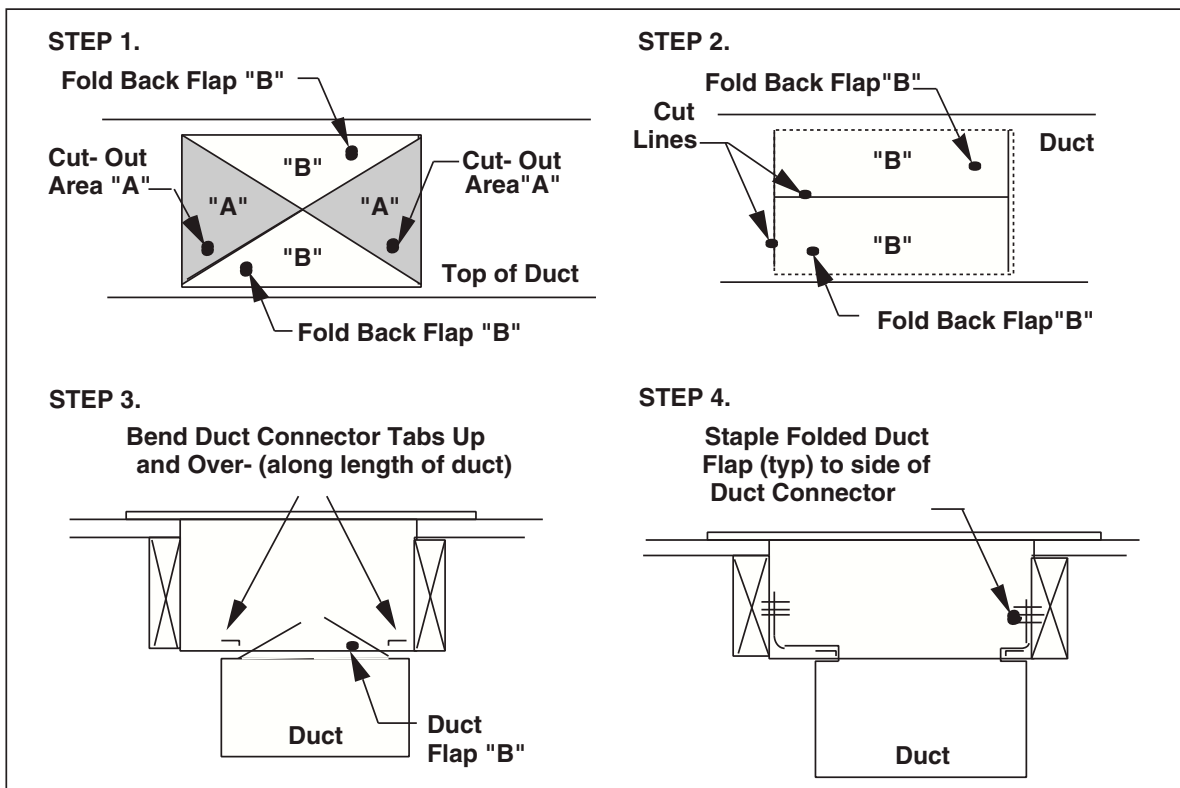

Figure 12. Alternate Duct Connector Installation D
1. Score and cut top of metal duct as indicated in Figure 12, Step 1 or Step 2. If using Step 1, also cut out metal from the shaded area "A".
2. Fold the duct flap "B" up (see Figure 12, Step 3).
3. At the front-to-back of duct run (see Figure 12, area "A"), bend the duct connector tabs and secure them directly to the duct.
4. At area "B", bend the duct connector tabs up and back over, around the duct connector (see Figure 12, step 3).
5. Fold/form the duct flap against the side of the duct connector and attach as shown (see Figure 12, Step 4). Use at least three staples on each duct flap OR... if a 2X block/joist is not provided, use at least two sheet metal fasteners on each duct flap.